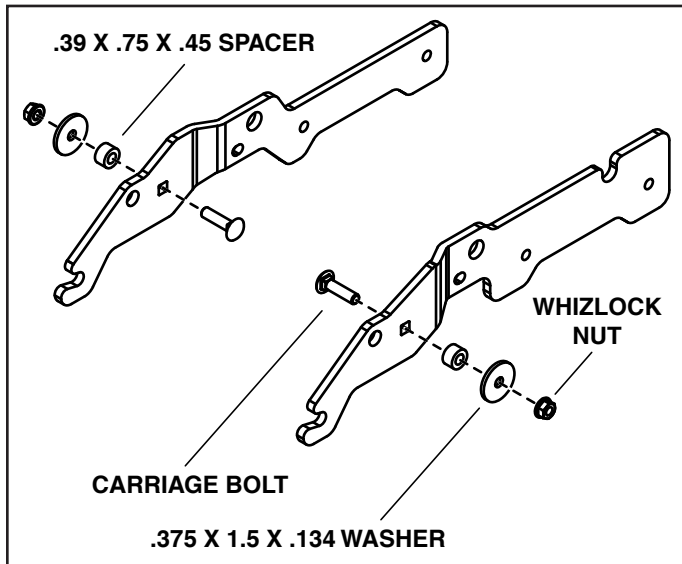

Figure 10.
1. See figure 10. Assemble a 3/8-16 x 1-1/2" carriage bolt, .39 x .75 x .45 spacer, .375 x 1.5 x .134 washer, and 3/8-16 whizlock nut to the RH and LH mounting plates.